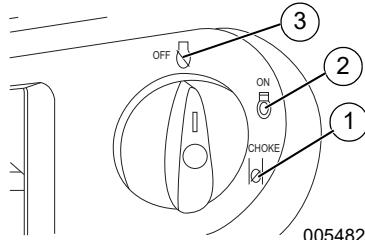

Figure 3-2.Off/On/Choke Positions
- See **Figure 3-2**. Rotate the Off/On/Choke switch to CHOKE (1).
- See **Figure 3-2**. When engine starts, rotate Off/On/Choke dial to ON (2). Choke operation is reduced as Off/On/Choke dial is rotated towards ON.
3. See **Figure 3-2**. Rotate the Off/On/Choke switch to CHOKE (1).
6. See **Figure 3-2**. When engine starts, rotate Off/On/Choke dial to ON (2). Choke operation is reduced as Off/On/Choke dial is rotated towards ON.
3. See **Figure 3-2** Rotate Off/On/Choke dial to OFF (3).
1. See **Figure 3-2**. Turn Off/On/Choke dial from STOP to ON. This will open the fuel valve and permit starting.